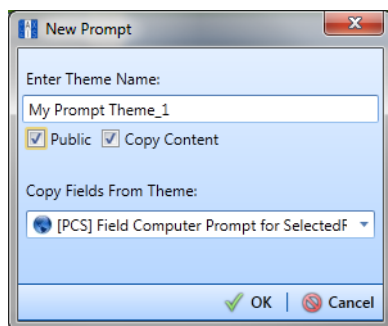

Figure 13-32. New Prompt
- 4 Click the **Add** button to open the *New Prompt* dialog box (Figure 13-32).
- 4 Click the  **Add** button to open the *New Prompt* dialog box (Figure 13-32, page 627).